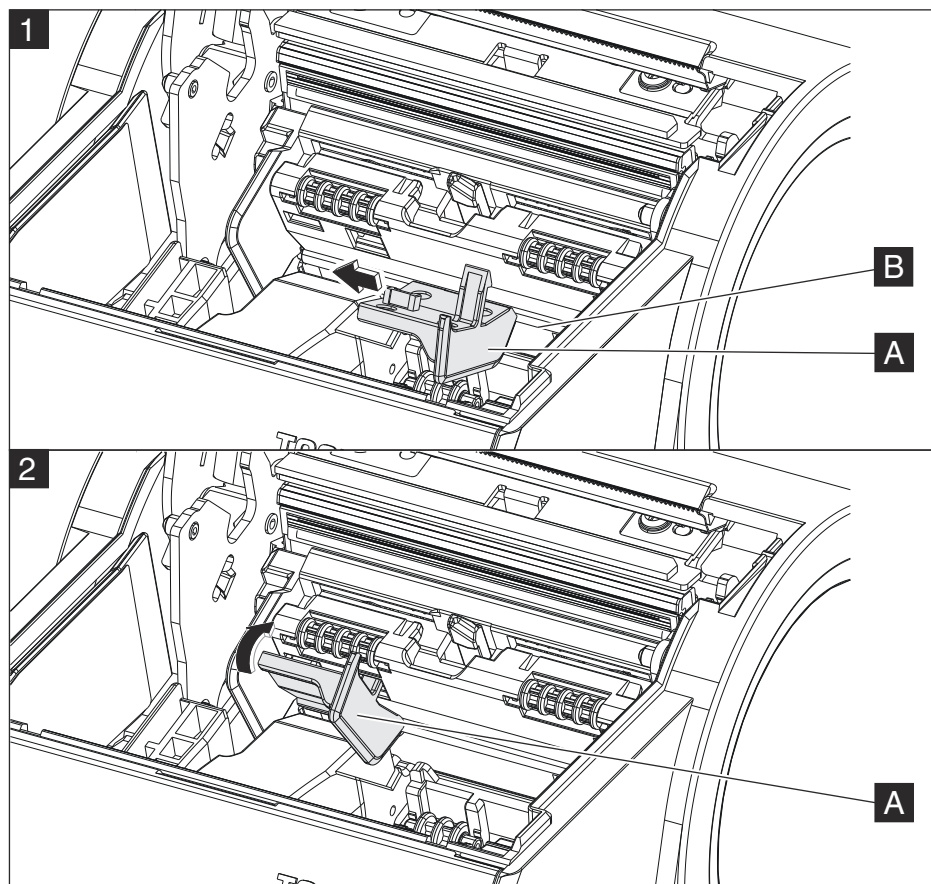

Figure 2. Installing the paper guide
- a. Hook the paper guide to the right of the paper out sensor **A** on the groove **B**, as shown in Frame **1** of Figure 2.
- c. Tilt the paper guide tab upward **A** until it clicks into place, as shown in Frame **2** of Figure 2.